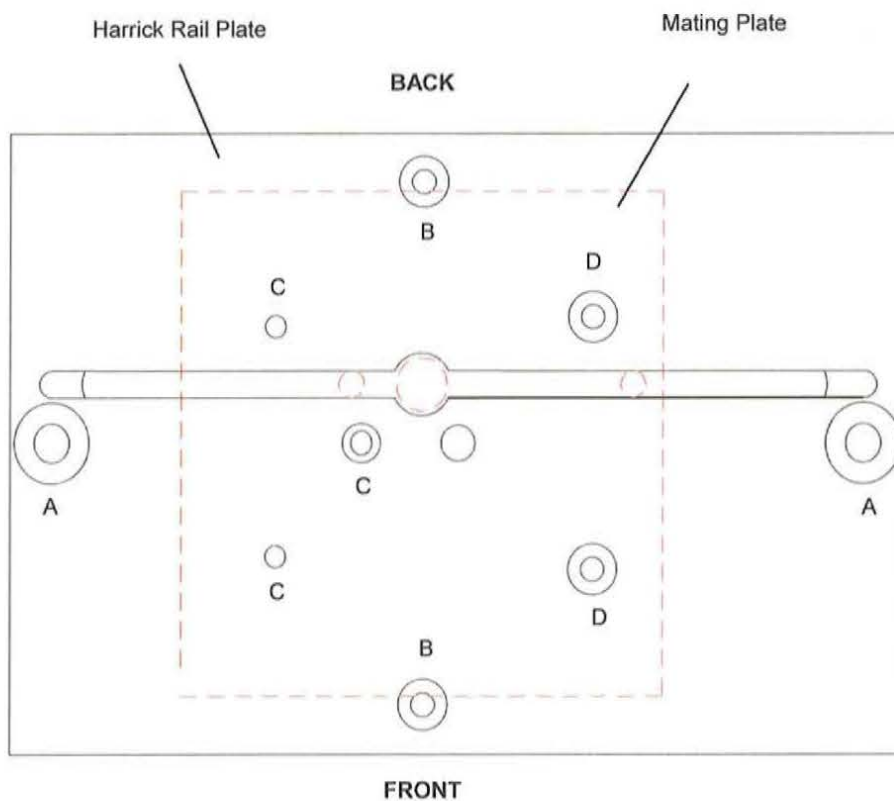

Figure 24 • Screw and Pin Positions for Rail Plate
- Install the rail plate in the orientation indicated in Figure 24. See Table 1 on the next page for the appropriate screws/holes for your spectrometer.